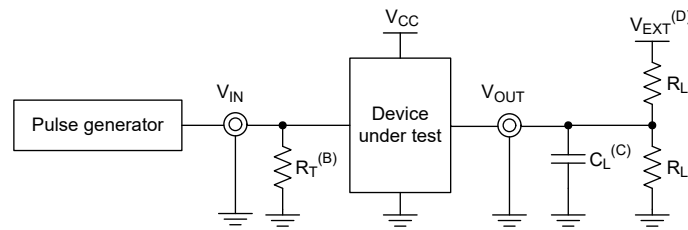

Figure 6-1. Load Circuit
2. Waveform 1 in Figure 6-3 is for an output with internal such that the output is high, except when OE is high (see Figure 6-1). Waveform 2 in Figure 6-3 is for an output with conditions such that the output is low, except when OE is high.